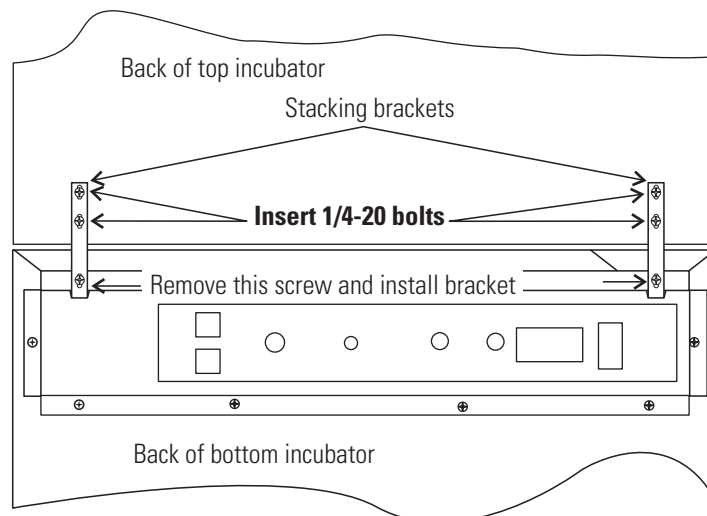

Figure 1-6. Two Screws From Control Housing Back
6. Remove and save the two screws from the back of the control housing on the bottom unit as identified in Figure 1-6.
7. Insert the stacking brackets into the slots on the back of the control housing of the bottom unit as shown in Figure 1-6. Align the slots in the brackets with the mounting holes on the rear of the incubators. Secure the brackets with the screws saved above and the 1/4-20 bolts provided in the stacking kit. A 7/16" wrench or socket is required for the bolts.